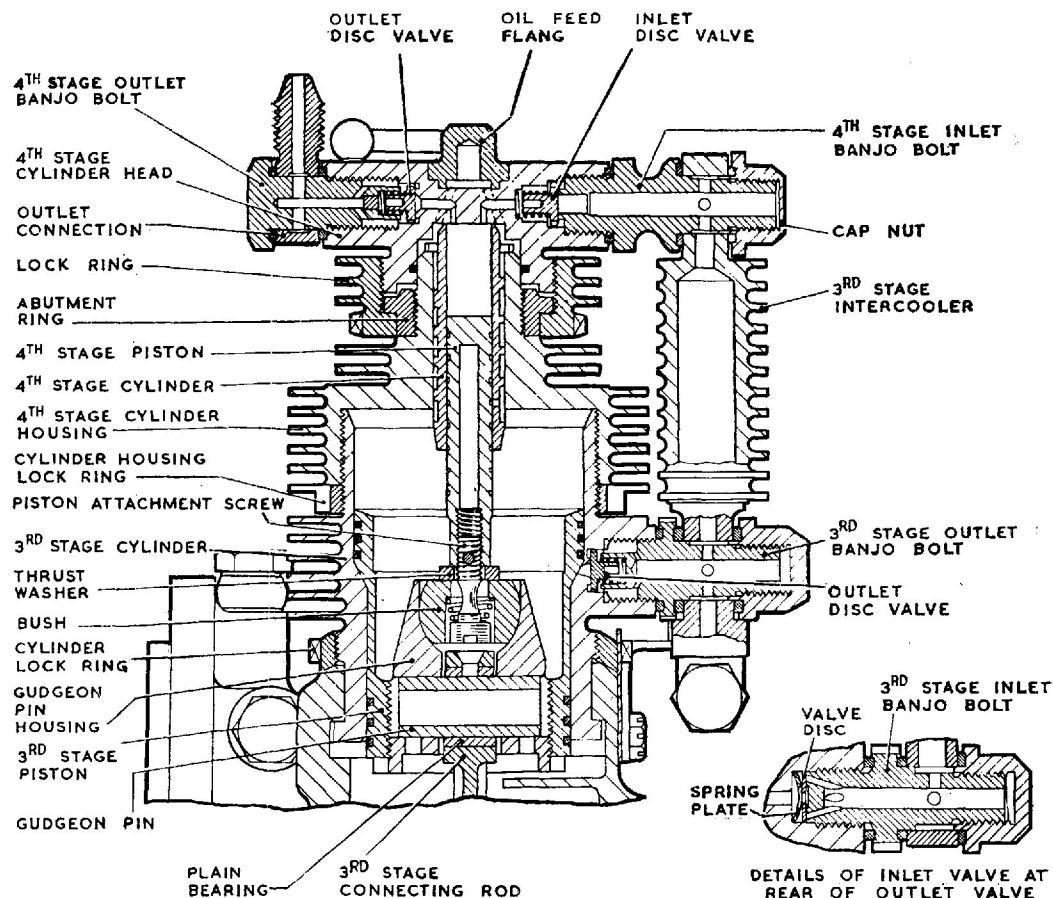

Fig. 4. 3rd and 4th stage system
(2) Unscrew the 2nd stage inlet banjo bolt from the side of the cylinder and remove the washers, the valve disc and the spring plate.
(3) Unscrew the 2nd stage outlet banjo bolt from the side of the cylinder and remove the washers, spring and outlet disc valve.
20. 3rd stage valves (fig. 4).—(1) Remove the cap nuts securing the 3rd stage intercooler to the unit and detach the intercooler.
(2) Unscrew the inlet and outlet banjo bolts and extract the valve components as detailed in sub-paras. 19 (2) and 19 (3).
21. 4th stage valves (fig. 4).—(1) Unscrew the inlet and outlet banjo bolts and detach the outlet connection.